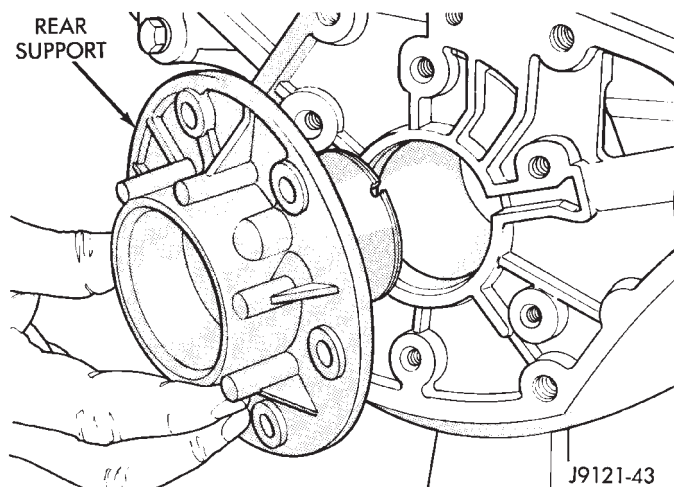

Fig. 137 Rear Support Installation
(3) Hold low-reverse drum in position and install rear support (Fig. 137)